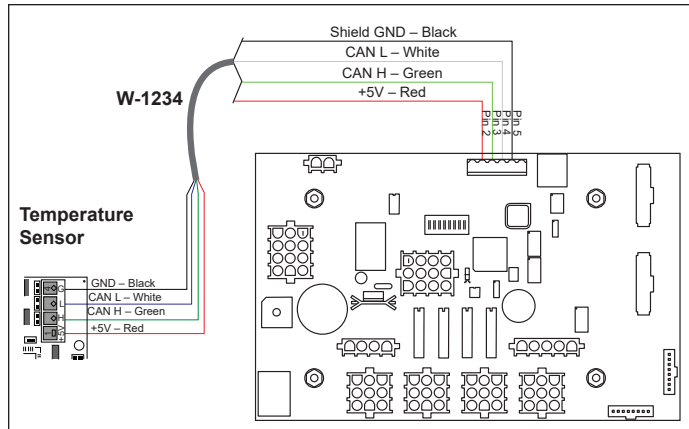

Figure 7: Temperature Sensor to Display Driver Connections
2. Connect the temperature sensor to the terminal block (TB1) on the host driver. Refer to **Figure 7** and the table for the correct pinout.